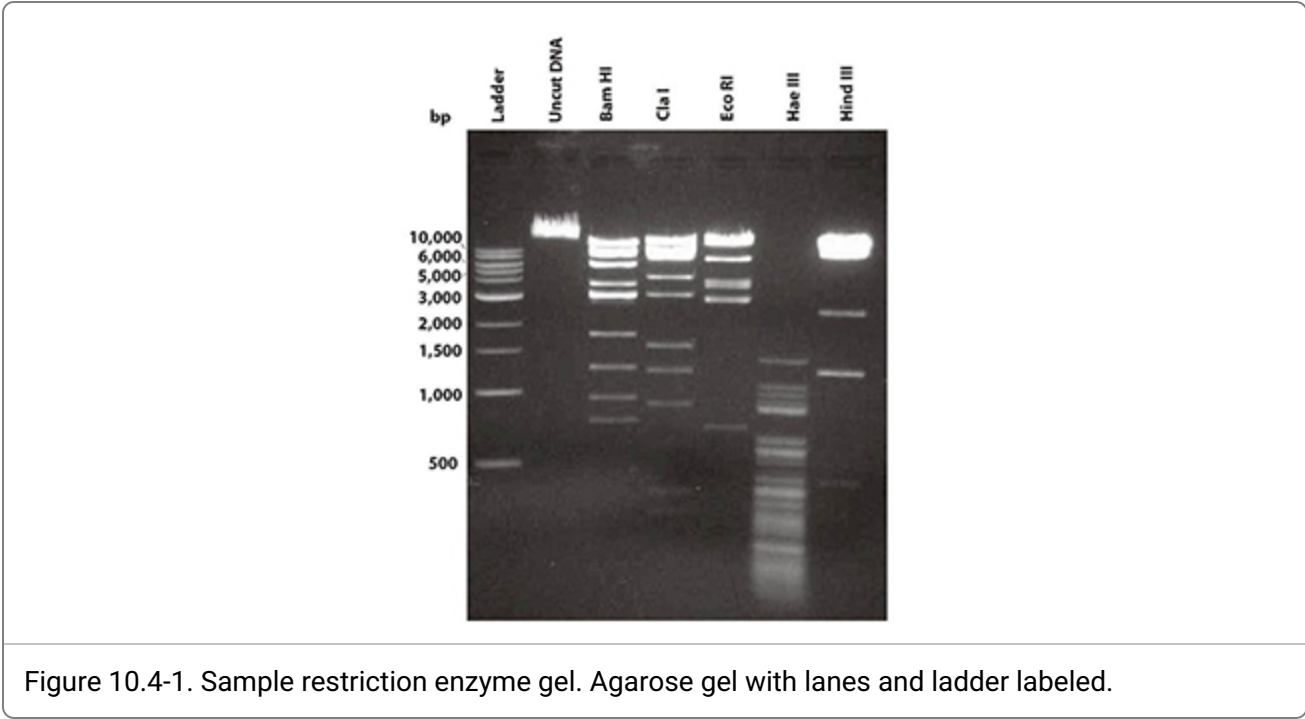

Figure 10.4-1. Sample restriction enzyme gel. Agarose gel with lanes and ladder labeled.
1. Using a ruler and a pen, draw a line at the top of the gel photo, above the wells or below the wells. The line will act as a reference for measuring the distance migrated by the DNA (Figure 10.4-1).